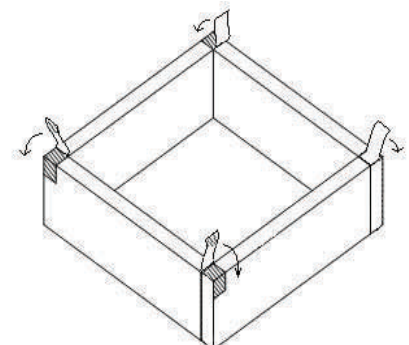

Figure 3
- Attach the flap with the loop fastener on the top of each wall to the side of each adjoining wall by wrapping them over the top and down the side (see figure 3).